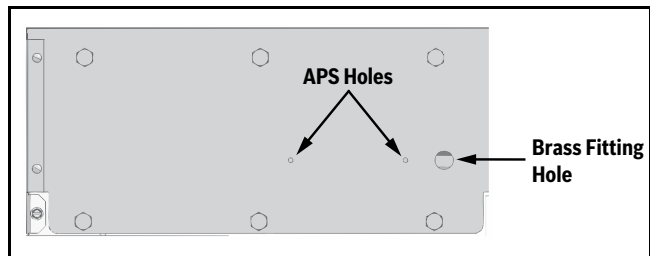

Fig. 14 Heating Elements
2. Insert the brass fitting into the specified hole if not installed from the factory. (→Refer to Fig. 14.)
3. Mount the APS using two screws to the specified holes. (→Refer to Fig. 14.)